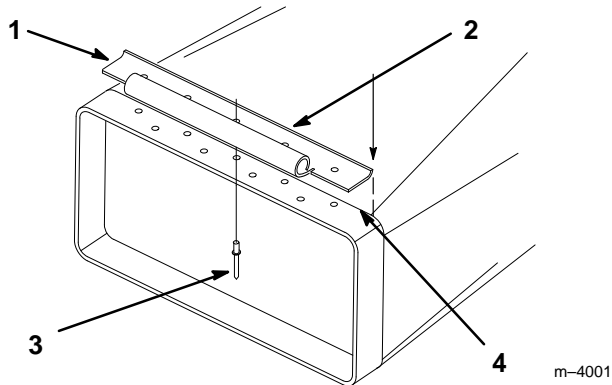

Figure 9
1. Center the wide chute bracket across the front of the chute with the rear edge of the bracket aligned with the angle change on the chute (Fig. 9) and clamp it on top of the chute.
2. Using the wide chute bracket as a guide, drill (9) #20 holes in chute, as shown (Fig. 9).
3. Secure the wide chute bracket to chute with (9) 5/32" pop rivets, inserted up through the chute opening (Fig. 9).